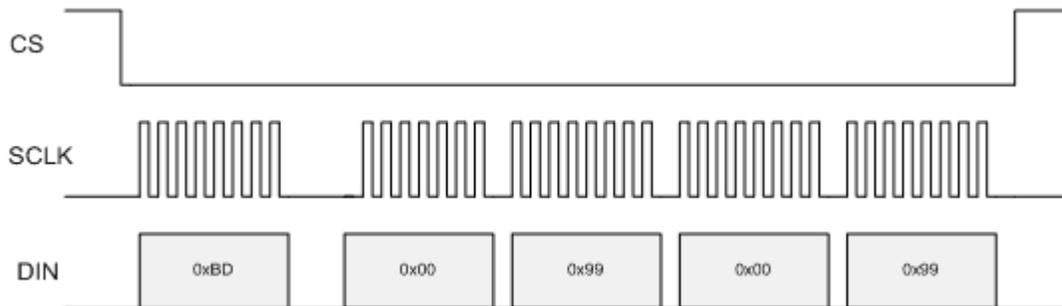

Figure 15. Corrupted Clock - Missed Clock
- Host MCU MSP430F4481 send package is shown in Figure 15. One clock for first data is missing. Keep sending this package 10 times. The time gap between the two packages is 10 ms. CSG firmware should keep running in measurement mode. See if CSG firmware gets reset or if any unexpected function is triggered.